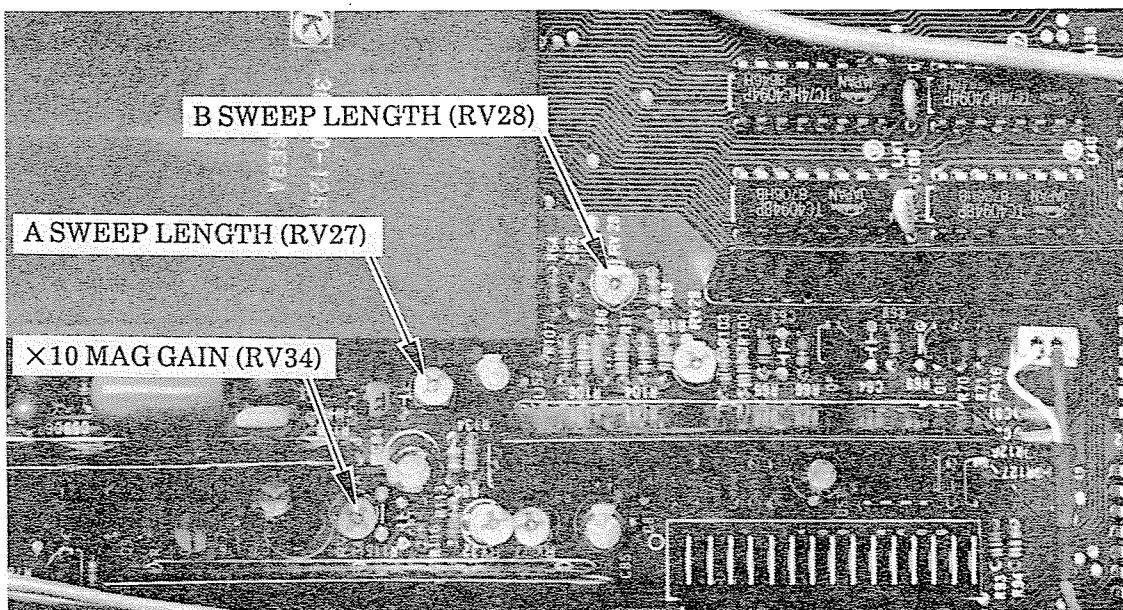

Fig. 4-30 Adjustment positions of A and B SWEEP LENGTH (RV27 and RV28) and  $\times 10$  MAG GAIN (RV34)
- (1) Perform initial setting in accordance with Table 4-3.
- (2) Apply a 1ms time marker signal output, to the CH1 input (terminated in 50 ohms), and adjust the VOLT/DIV switch so that the amplitude of the waveform on the CRT screen is about 2 DIV.
- (3) Count the time markers and confirm that the sweep length is within  $11.5 \pm 0.5$  DIV. If it is not, adjust the A SWEEP LENGTH (RV27) on board A4 shown in Fig. 4-30.
- (4) Set "HORIZ MODE" to "ALT", and set "BTRG" to ON.
- (5) Set the B sweep to 1ms/DIV, and the A sweep to 2ms/DIV.
- (6) Set "DLY" to ON, and turn the "READ OUT" knob to the left to set the DELAY TIME POSITION to 0.
- (7) Set "HORIZ MODE" to "B".
- (8) Count the timer markers and confirm that the sweep length is within  $11.5 \pm 0.5$  DIV. If it is not, adjust the B SWEEP LENGTH (RV28) on board A4 shown in Fig. 4-30.
- (2) Connect a 0.1ms time marker signal, to the CH1 input (terminated in 50 ohms), and adjust the input factor so that the amplitude of the waveform on the CRT screen is about 2 DIV.
- (3) Set " $\times 10$ MAG" to ON.
- (4) Confirm that the sweep accuracy is within  $\pm 4\%$ . If it is not, adjust  $\times 10$ MAG GAIN (RV34) on board A4 shown in Fig. 4-30.